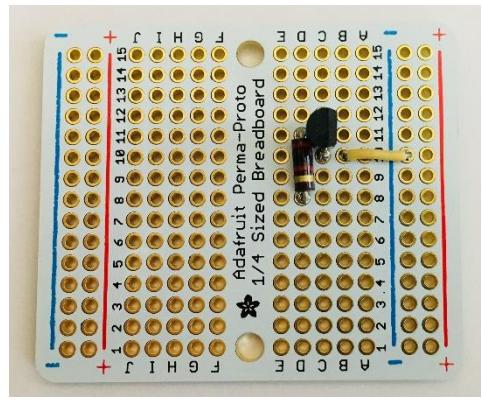

Figure 52 Breadboard with resistor, transistor, and jumper wire soldered
- Trim the excess wire from the underside. See Figure 52 for the results of this step.